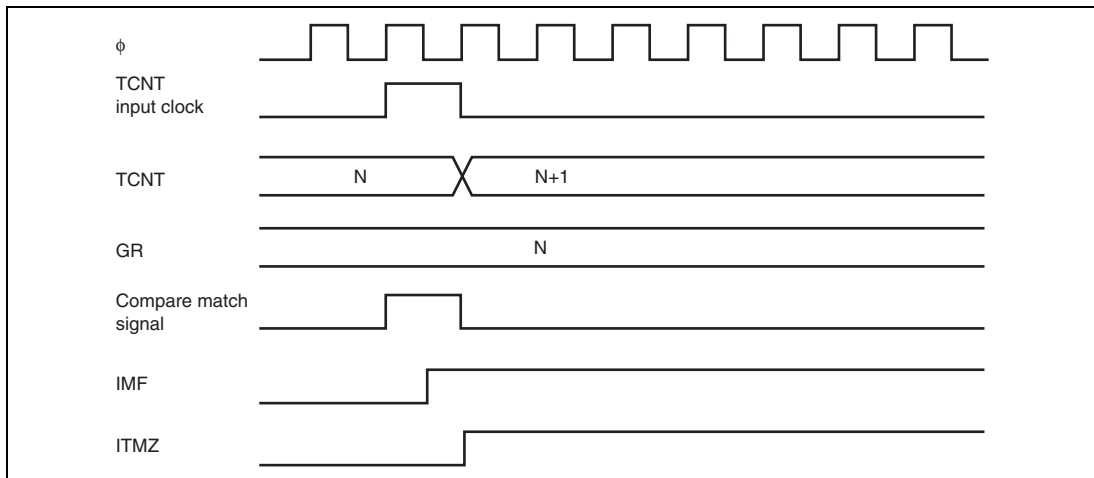

Figure 14.48 IMF Flag Set Timing when Compare Match Occurs
1. **IMF Flag Set Timing:** The IMF flag is set to 1 by the compare match signal that is generated when the GR matches with the TCNT. The compare match signal is generated at the last state of matching (timing to update the counter value when the GR and TCNT match). Therefore, when the TCNT and GR matches, the compare match signal will not be generated until the TCNT input clock is generated. Figure 14.48 shows the timing to set the IMF flag.